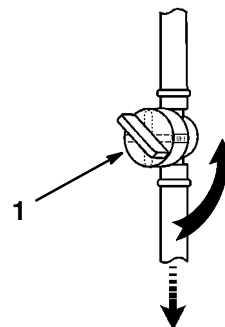

Figure 28
2. Turn the fuel shut-off valve off (Fig. 28).